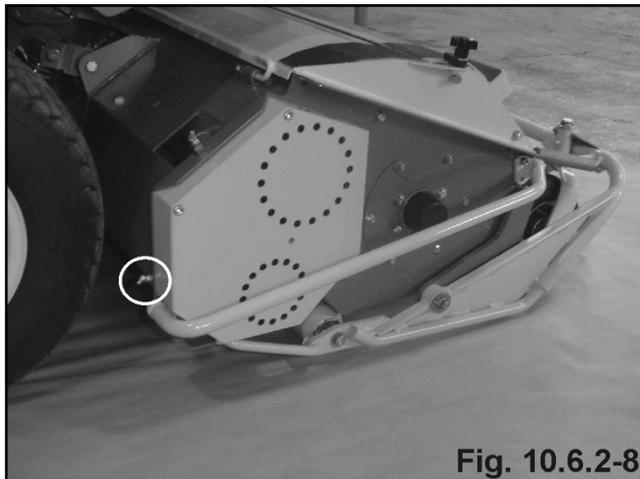

Fig. 10.6.2-8
- Longitudinal work drive cross-linkage (Fig. 10.6.2-9)